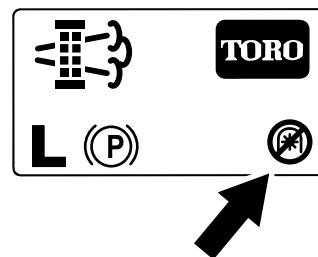

Figure 55
**Note:** The Home screen displays the PTO disabled icon (Figure 55).
**Note:** The Home screen displays the PTO disabled icon; refer to Figure 55 in Parked Regeneration Messages \(page 39\).